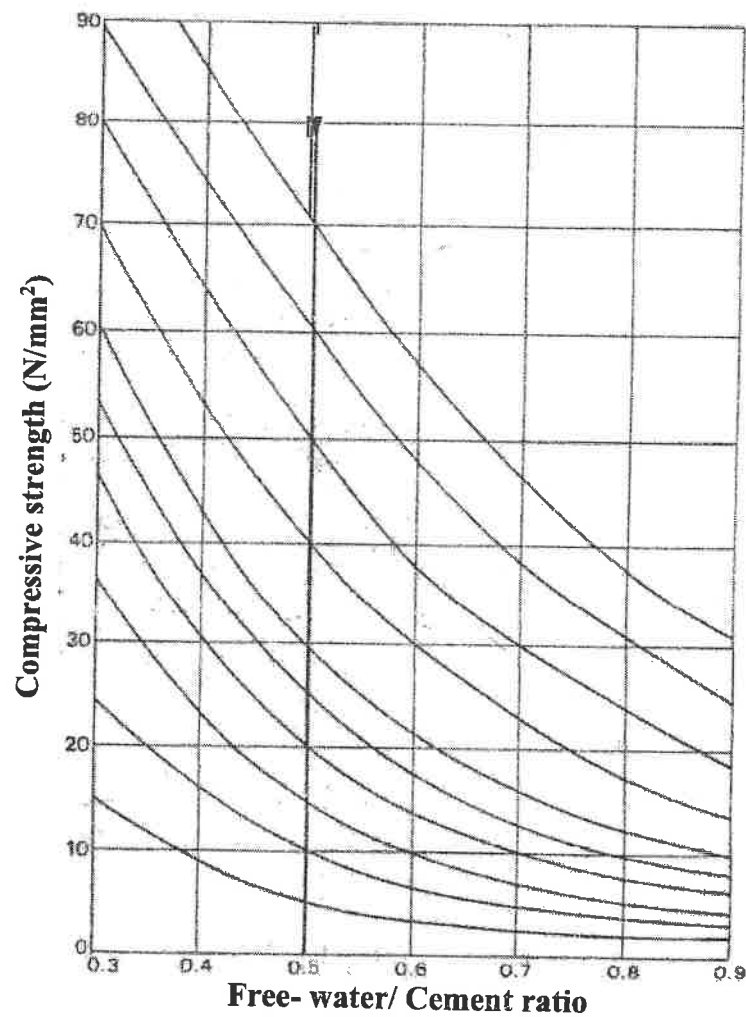

Fig. Q2.1 Compressive strength against free water cement ratio
*The trend of Compressive strength against Free Water/Cement ratio is given in Fig. Q2.1.*
(For both parts of the question, no calculations are required. For the method of rectification, use Fig. Q2.1 to elaborate your method by which the next trial mix proportion is decided)